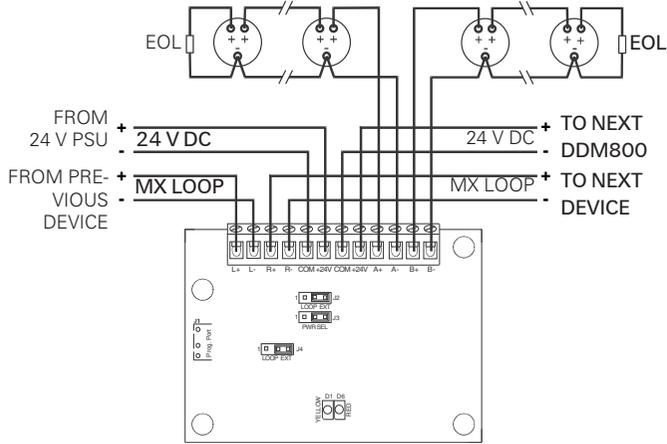

Fig. 7: Spur circuits with external 24 V
- 4 See Figs. 7 to 13 for simplified DDM800 wiring diagrams.